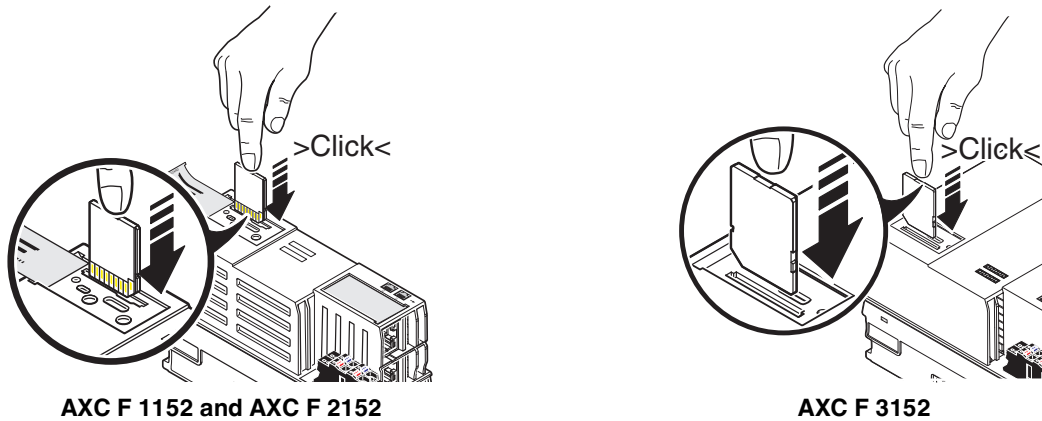

Figure 4-9 Inserting the SD card
- Gently push the SD card into the SD card holder until it engages with a click in the SD card holder (see Figure 4-9, “Click”).